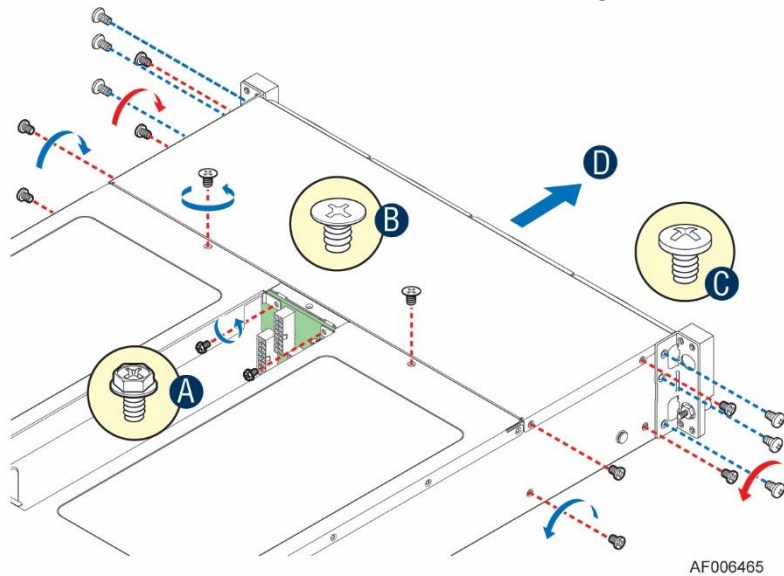

Figure 44. Removing the drive cage
4. Remove the drive cage screws (A, B and C) and pull out the drive cage (D) as pictured in Figure 44.